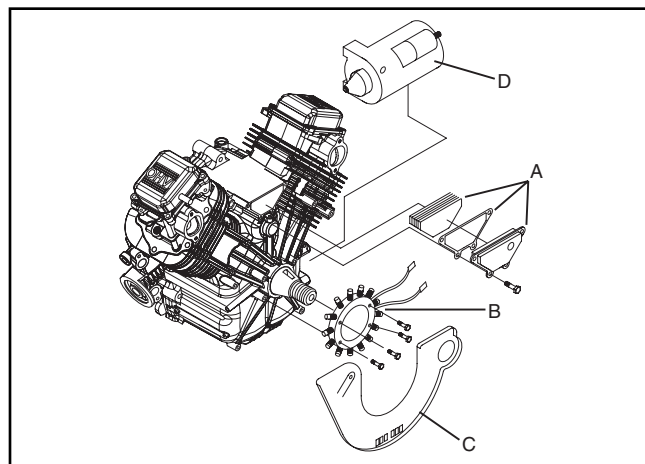

Figure 9-1. Remove Alternator, Backplate, Starter Motor
1. Remove the following parts (Figure 9-1):